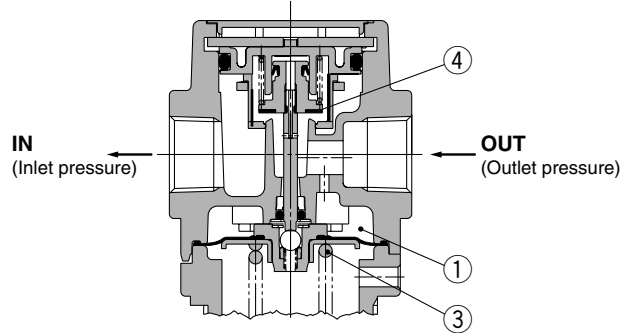

Figure 2 Backflow
When the inlet pressure is higher than the set pressure, the check valve ② closes and operates as a normal regulator (Figure 1). When the inlet pressure is shut off and released, the check valve ② opens and the pressure in the diaphragm chamber ① is released to the inlet side (Figure 2).
This lowers the pressure in the diaphragm chamber ① and the force generated by the pressure regulator spring ③ pushes down the diaphragm. Valve ④ opens through the stem, and the outlet pressure is released to the inlet side (Figure 2).